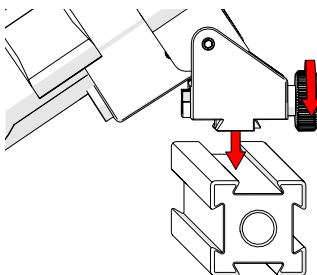

Fig. 276 - Mount on frame bar
1. Loosen the battery powered optical guide knob (Fig. 276) and mount the optical guide to the frame bar.